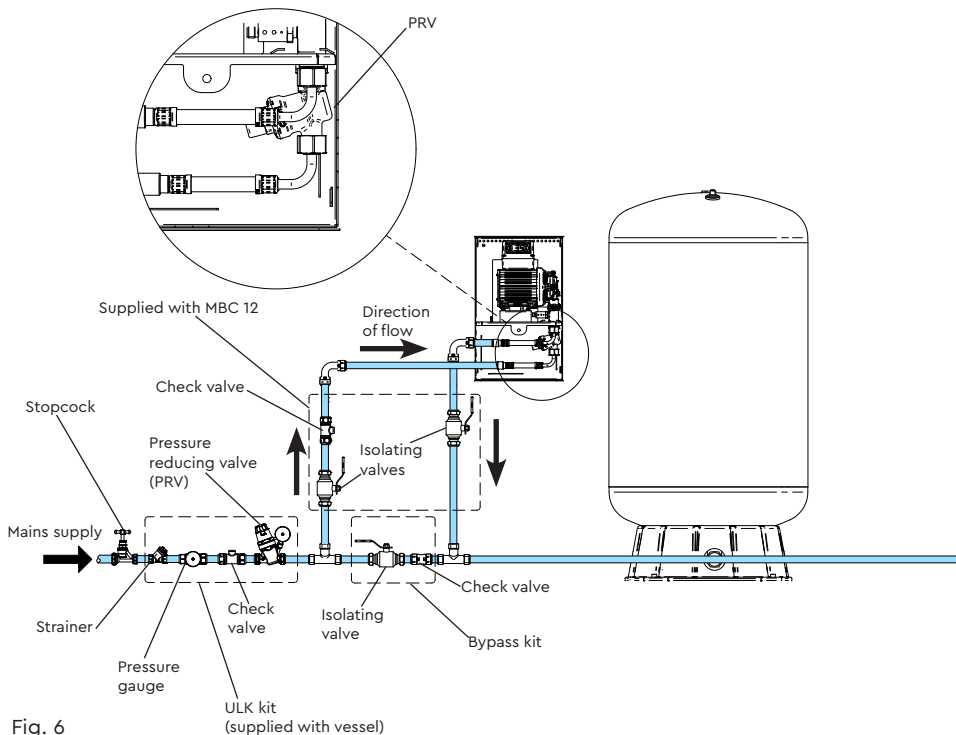

Fig. 6
- 3) Your charger will have been supplied with either a green energy lever valve and check valve to suit the main water supply size of (22, 28 or 35 mm). Having ensured the stopcock is turned off and (if installing on an existing Mainsboost system) drained it, remove a section of pipe to allow fitting of 2 tee pieces (not supplied), the lever valve and check valve (Fig. 6).
- 5) Ensure the PRV is securely fitted and connect the flexible hoses provided, routing them to the desired case exit points (Fig. 6).
- 7) Route 15 mm feed and return from the tees inserted in the main, passing through the isolating valves supplied and the check valve (fitted in the feed line only) (Fig. 6).
- 8) Ensure grommets are fitted correctly in all case apertures to ensure the pipework **does not** vibrate against the case (Fig. 6).